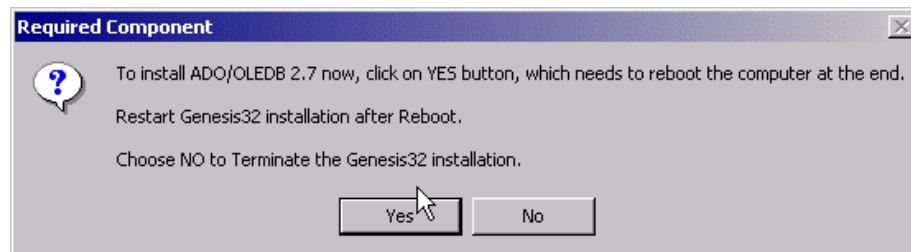

Figure 2.4
3. The window in **Figure 2.4** will appear, asking to reboot after installation of ADO components. Click on **Yes** to start installation of ADO/OleDB 2.7.